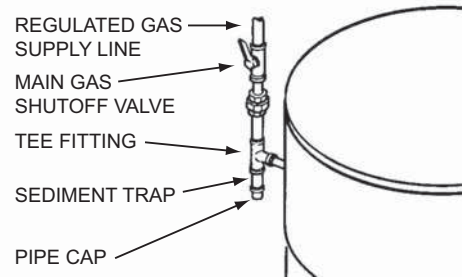

Figure 44. Supply Gas Line Installation
Ensure all gas pipe is clean on the inside before installation. To trap any dirt or foreign material in the gas supply line a sediment trap must be installed as shown in **Figure 44**. The sediment trap must be readily accessible and not subject to freezing conditions. Install in accordance with the recommendations of the local gas utility company.
1. For test pressures exceeding 1/2 psi (3.45 kPa) disconnect the water heater and its Main Gas Shutoff Valve from the gas supply piping system during testing, see **Figure 44** (page 39). The gas supply line must be capped when disconnected from the water heater.